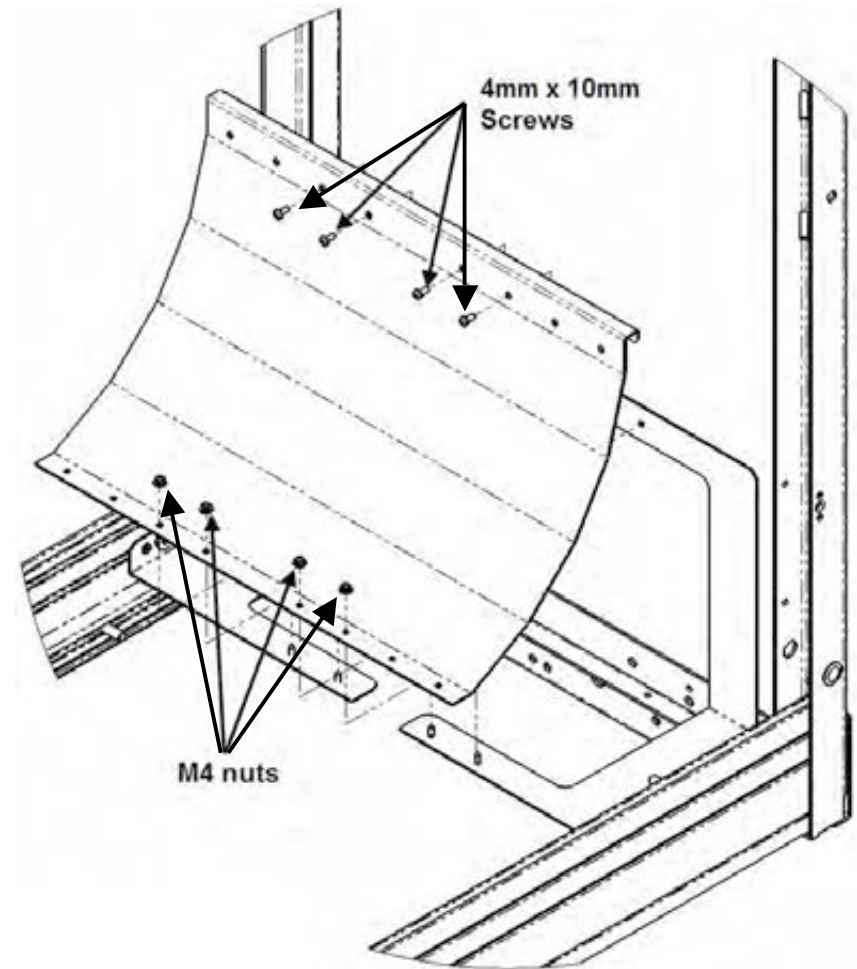

Figure 3
4. Mount the air flow director to the bracket with the four 4mm x 10mm screws and four nuts removed in step 1. (Fig. 3)